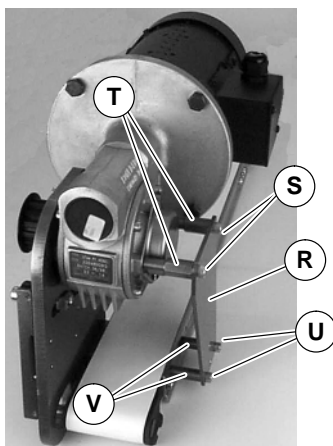

Figure 8
- 6a. Install hex posts (T of Figure 8). Attach wide end of support plate (R) to hex posts with screws (S). Attach narrow end of support plate to conveyor, using spacers (V) and screws (U). Tighten screws to 80 in-lb (9 Nm).